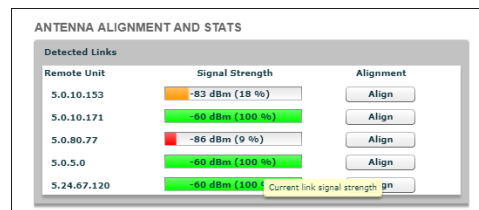

Figure 24. Configurator GUI (Antenna alignment and stats dialog)
- The **ANTENNA ALIGNMENT AND STATS** window will be shown (Figure 24 (page 64)).